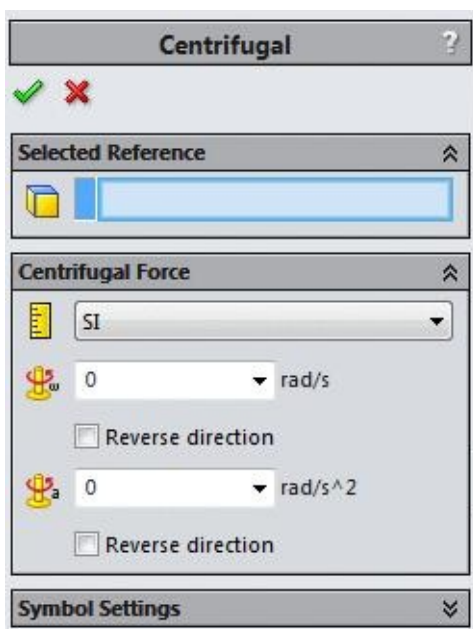

Figure-46. Centrifugal PropertyManager
- Click on the **Centrifugal Force** button from the **External Loads Advisor** drop-down. The **Centrifugal PropertyManager** will display as shown in Figure-46.